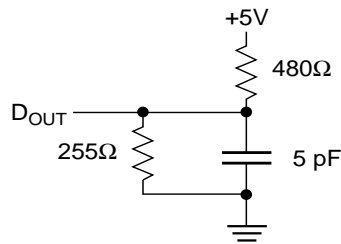

Figure 2. Output Load Equivalent
5. The parameter is tested with CL = 5 pF as shown in Figure 2. Transition is measured ±200 mV from steady state voltage.